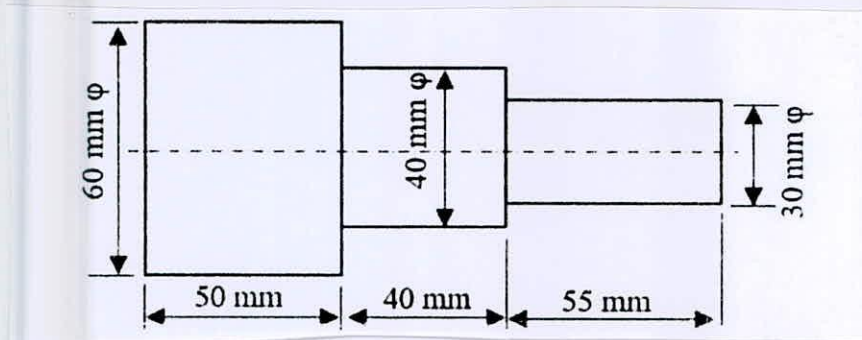

Fig. 1(c)
1. (a) A square wave with period  $T$  that goes between  $\pm V_0$  is applied to the  $RC$  circuit of Fig. 1(a). Plot  $V_{CAP}(t)$  for: (9)
1. (a) "For grinding a soft material, hard wheel should be used and vice versa" - why? (10)
- (b) With necessary sketches, briefly describe different types of work holding devices used in a lathe machine? (15)
- (c) Compute the machining time to turn the dimensions given in Fig. 1(c): The material is brass ( $60 \text{ mm } \phi \times 145 \text{ mm}$ ), the cutting speed with HSS tool being  $60 \text{ m/min}$ , the feed is  $7.5 \text{ mm/rev}$ , depth of cut is  $3 \text{ mm}$  per pass. (21  $\frac{2}{3}$ )